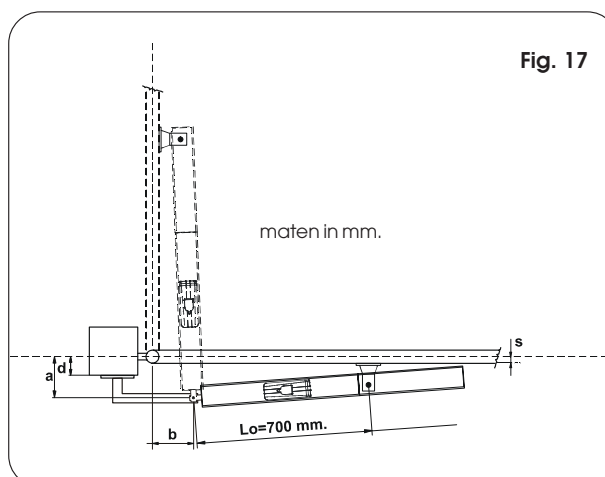

Fig. 17
9.1. OPENING NAAR BUITEN MET MONTAGE VAN DE AANDRIJVING AAN DE BINNENZIJDE (Fig. 17)